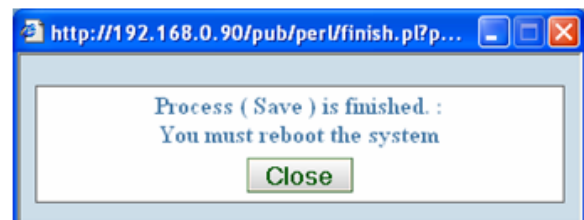

Figure 6
4. Click the [Close] button to close the process window, Figure 6, after the process is completed.